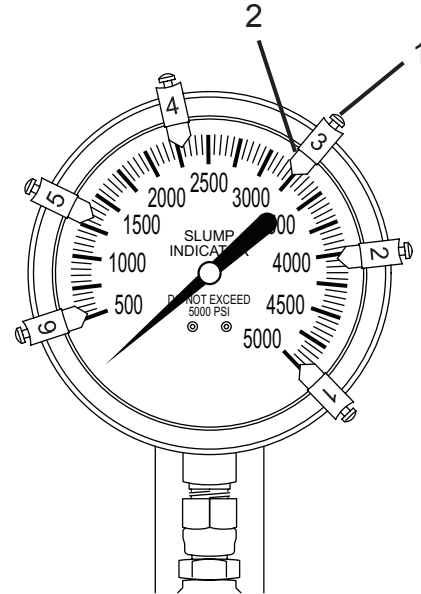

Figure 141
4. Loosen the locking screw (Figure 141, Item 1), and move the 3” indicator (Figure 141, Item 2) to match the tip of the indicator needle. Tighten the locking screw.